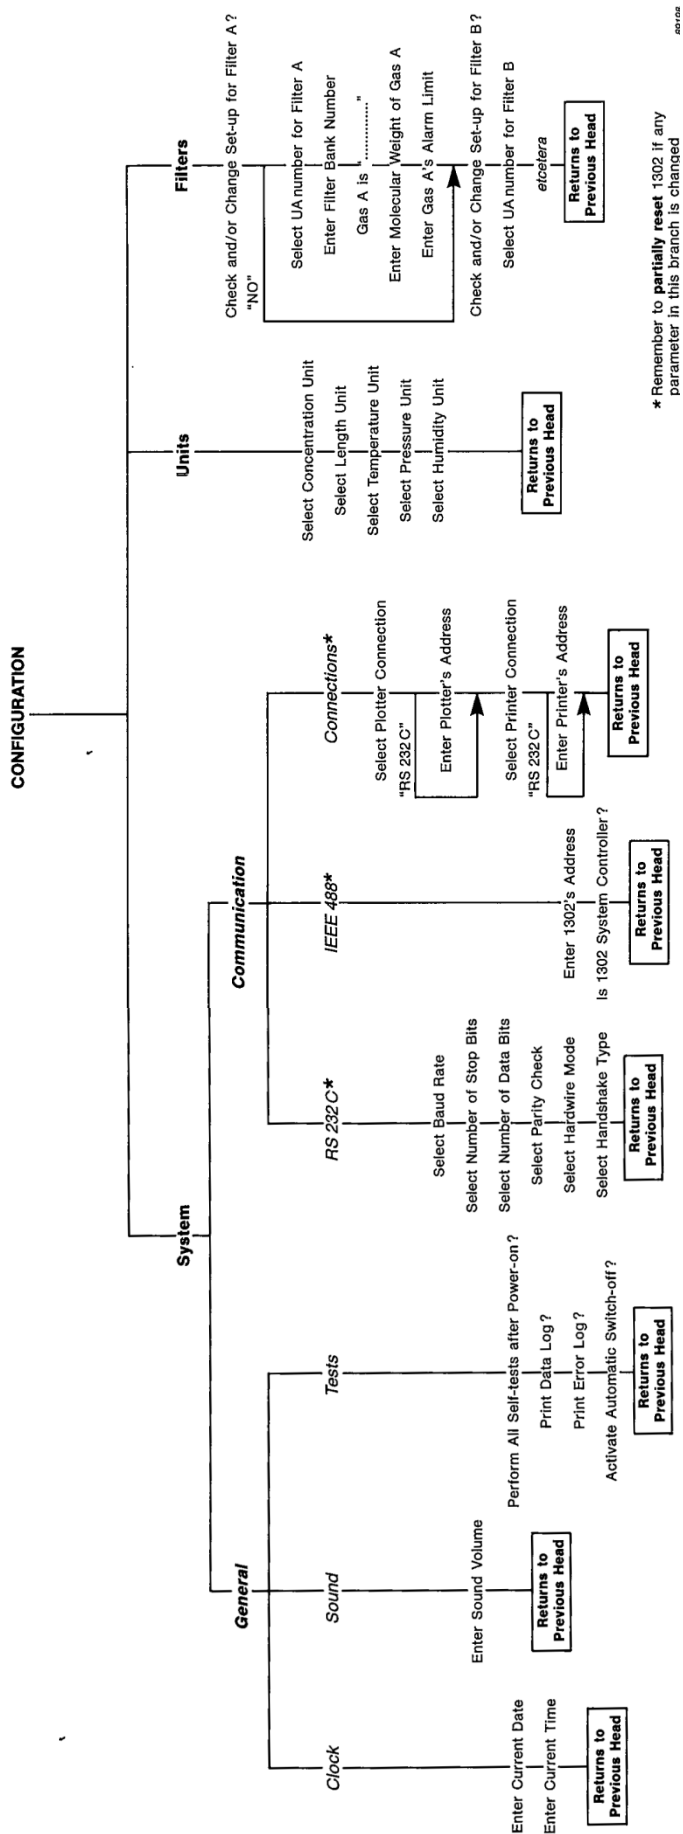

Figure 35. The Set-up “ Tree” for Configuration branch. (7)
- The extended *Configuration* branch can be seen on Figure 35 and it is used to set-up the Monitor's parameters. The *Unit* and *Filter* parts are described in section 6.2.1.
Check the units, by clicking *Set-Up* on the front panel, *Configuration* branch and *Unit* part (*Set-Up* → *S3* → *S1*). Investigate the units following the diagram presented on Figure 35.
Check the information about filters, by clicking *Set-Up* on the front panel, *Configuration* branch and *Filters* part (*Set-Up* → *S3* → *S3*). Investigate the information for the filters following the diagram presented on Figure 35. If you are only recalibrating the Monitor for the same filter positions and banks, then the names of the gases will be probably correct. If you are calibrating a new gas or an existing gas in a new filter bank, then the name of the gas and the molecular weight need to be typed in. Before changing these information contact person responsible for the Monitor.